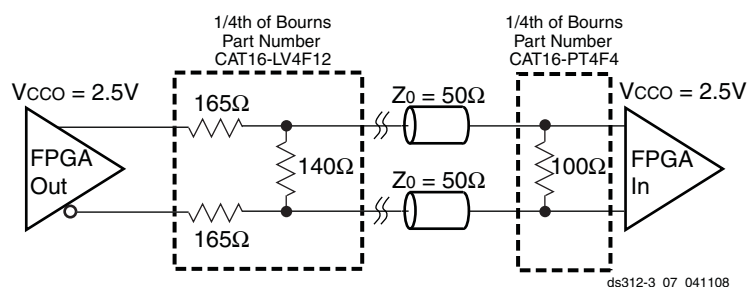

Figure 71: External Termination Resistors for BLVDS Transmitter and BLVDS Receiver
2. Output voltage measurements for all differential standards are made with a termination resistor ( $R_T$ ) of 100 $\Omega$  across the N and P pins of the differential signal pair. The exception is for BLVDS, shown in Figure 71.